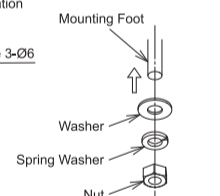

Figure 3: Nut and Washer Assembly
- 3 Insert the mounting feet of the product into the mounting holes and refer to Figure 3 for the assembly of the nuts and washers, then tighten the nuts with the recommended torque. (Recommended tightening torque: 0.7±0.1N·m)